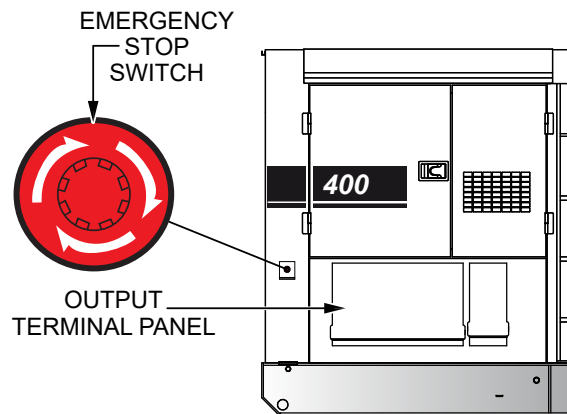

Figure 15. Emergency Stop Switch
1. To stop the engine in the event of an emergency, push the **Emergency Stop switch** (Figure 15). This switch is located on the side of the generator next to the output terminal panel.